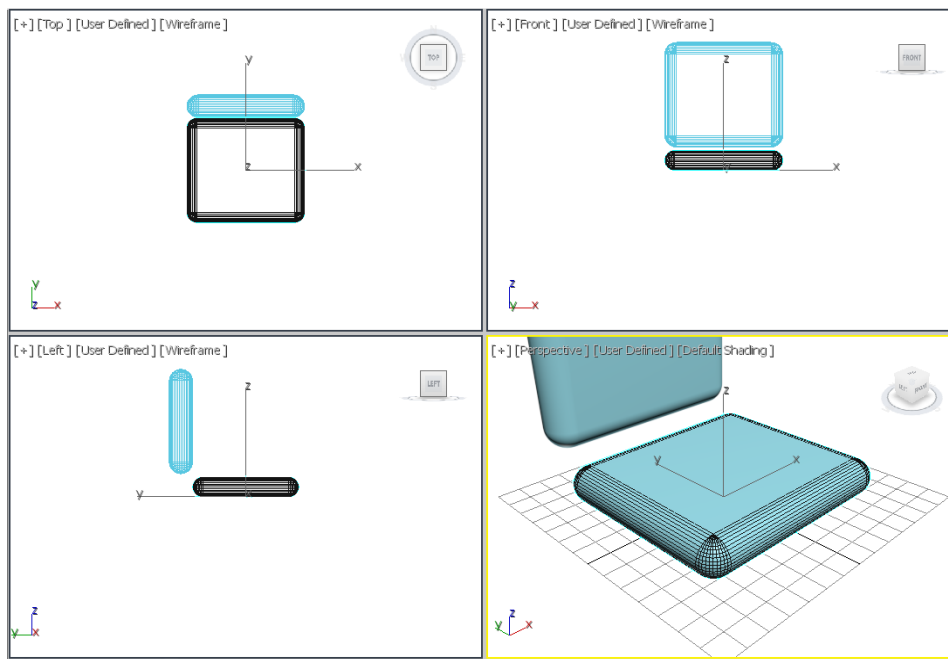

Figure 3-30 The back support geometry in viewports
3. Choose the **Create** button; a chamfer box is created. In the **Parameters** rollout, make sure the value in the **Fillet Segs** spinner is **10** and enter **back support** as the name of the chamfer box in the **Name and Color** rollout, refer to Figure 3-30.